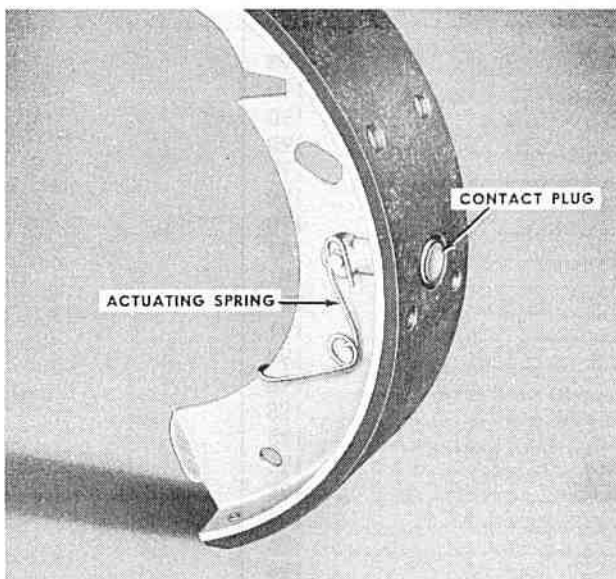

FIG. 349
**CHAMPION AND COMMANDER** Fig. 349 illustrates the new type contact plug actuating (pressure) spring as used on the front brake shoe assemblies of the 1948 models. This external spring replaces the small coil spring formerly used inside the contact plug. Operation and servicing instructions for this mechanism are the same as outlined on pp. 20-23 of this manual.